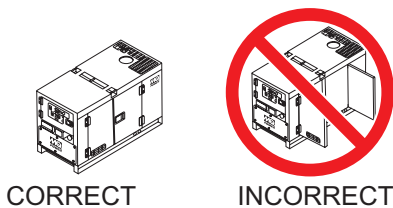

Figure 54. Engine Enclosure Doors
8. Close all engine enclosure doors (Figure 54).